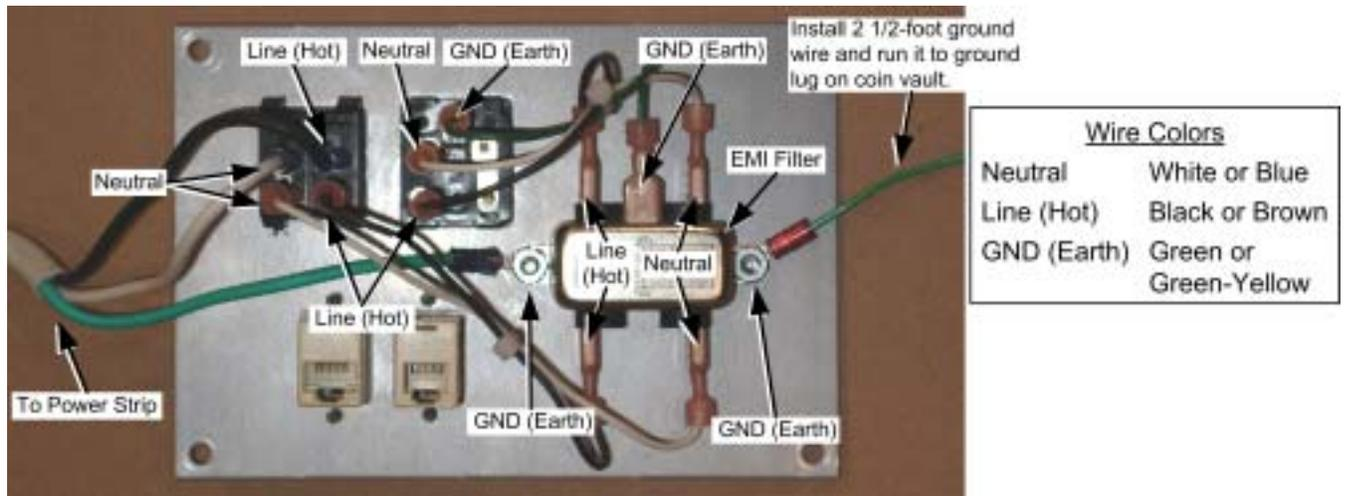

Figure 2. Power Plate Connections
3. Refer to Figure 2 and inspect the power plate to make sure that the correct color wire is connected to each connector.
- a. Install a 2 1/2' ground wire to the lug on the right of the EMI filter, as shown in Figure 2. Use a #8-32 kee nut to secure it in place. Secure the nut tightly.